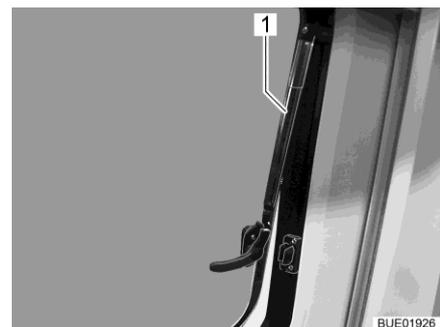

Fig. 20 Hinged window with automatic hinge
- Open hinged window half up to the required position. Allow the hinged window to engage automatically with the automatic hinge (Fig. 20,1).